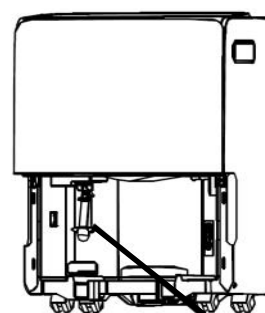

Fig. 5
- If the pump filter drops when you remove the bucket (see Fig.5), you must reinstall the pump filter properly to the unit before replacing the drain bucket into the unit (see Fig.6).